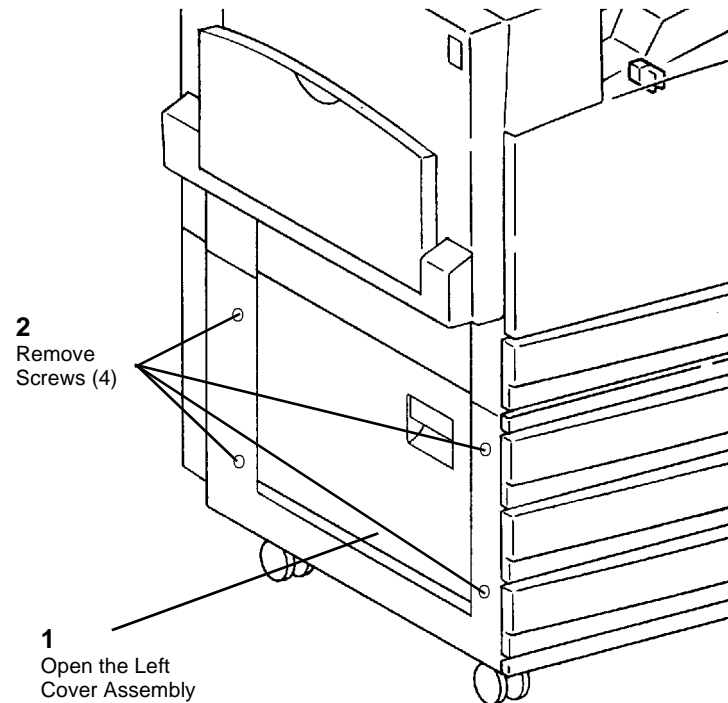

Figure 1 Removing the Left Lower Cover
1. Remove the Left Lower Cover (Figure 1).